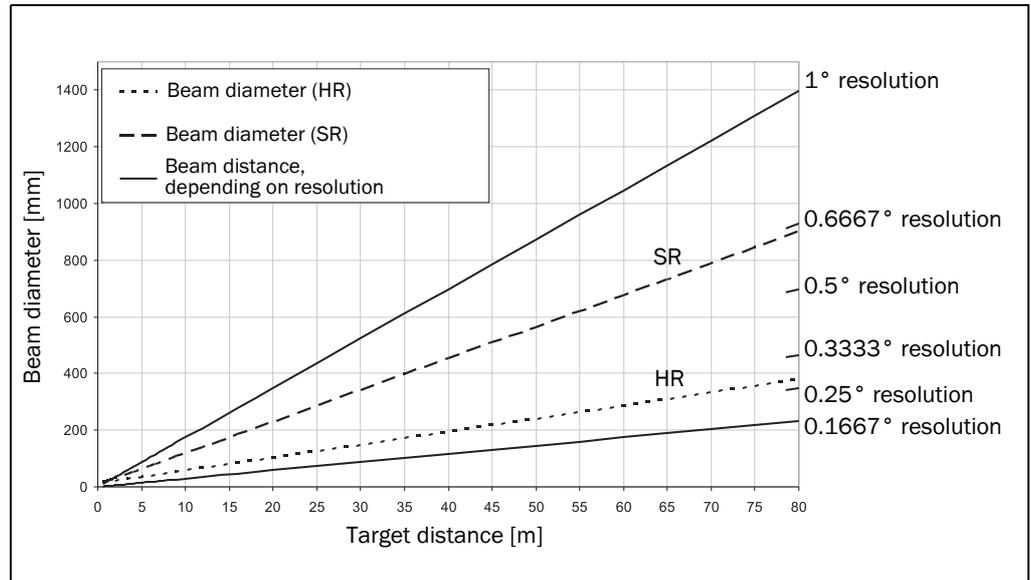

Fig. 15: Beam diameter and distance between measured points of the LMS500 at 0 to 80 m
The diagram in Fig. 15 shows the beam diameter and the measured point spacing as a function of the distance from the LMS5xx.
Example for angular resolution 0.1667° (HR) in Fig. 15
- For beam diameter and measured point spacing as a function of the distance from the LMS5xx see the diagram in Fig. 15 on page 29.